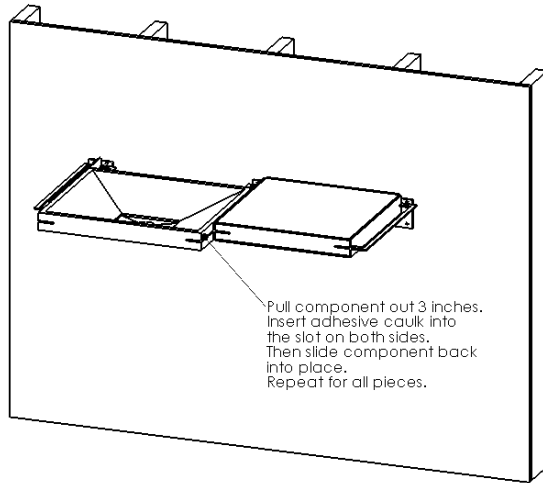

Figure 6.
15. Slide each piece out separately approximately 3". Insert adhesive caulk into the slot on the stone in front of and behind the front rail of each bracket. *See Figure 6.*